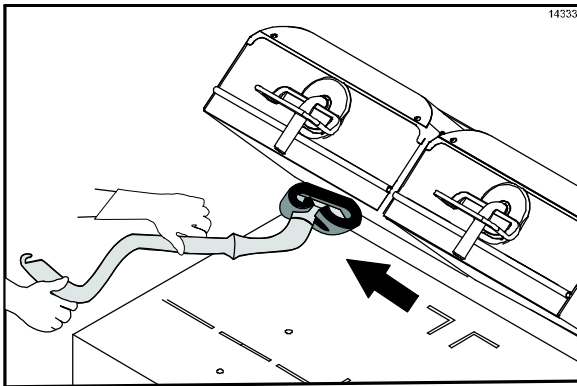

Figure 53
24. Scrub the platen surfaces, starting from the right platen to the left platen. (See Figure 53.)